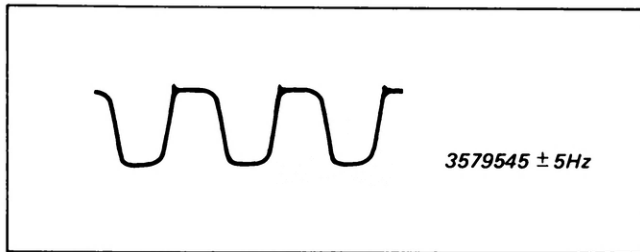

Fig. 4-25. 3.58 MHz oscillator output
- (1) Play back a blank tape.
- (2) Connect the frequency counter to TP8.
- (3) Adjust T5 for a counter reading of $3,579,545 \pm 5$ Hz. (See Fig. 4-25.)